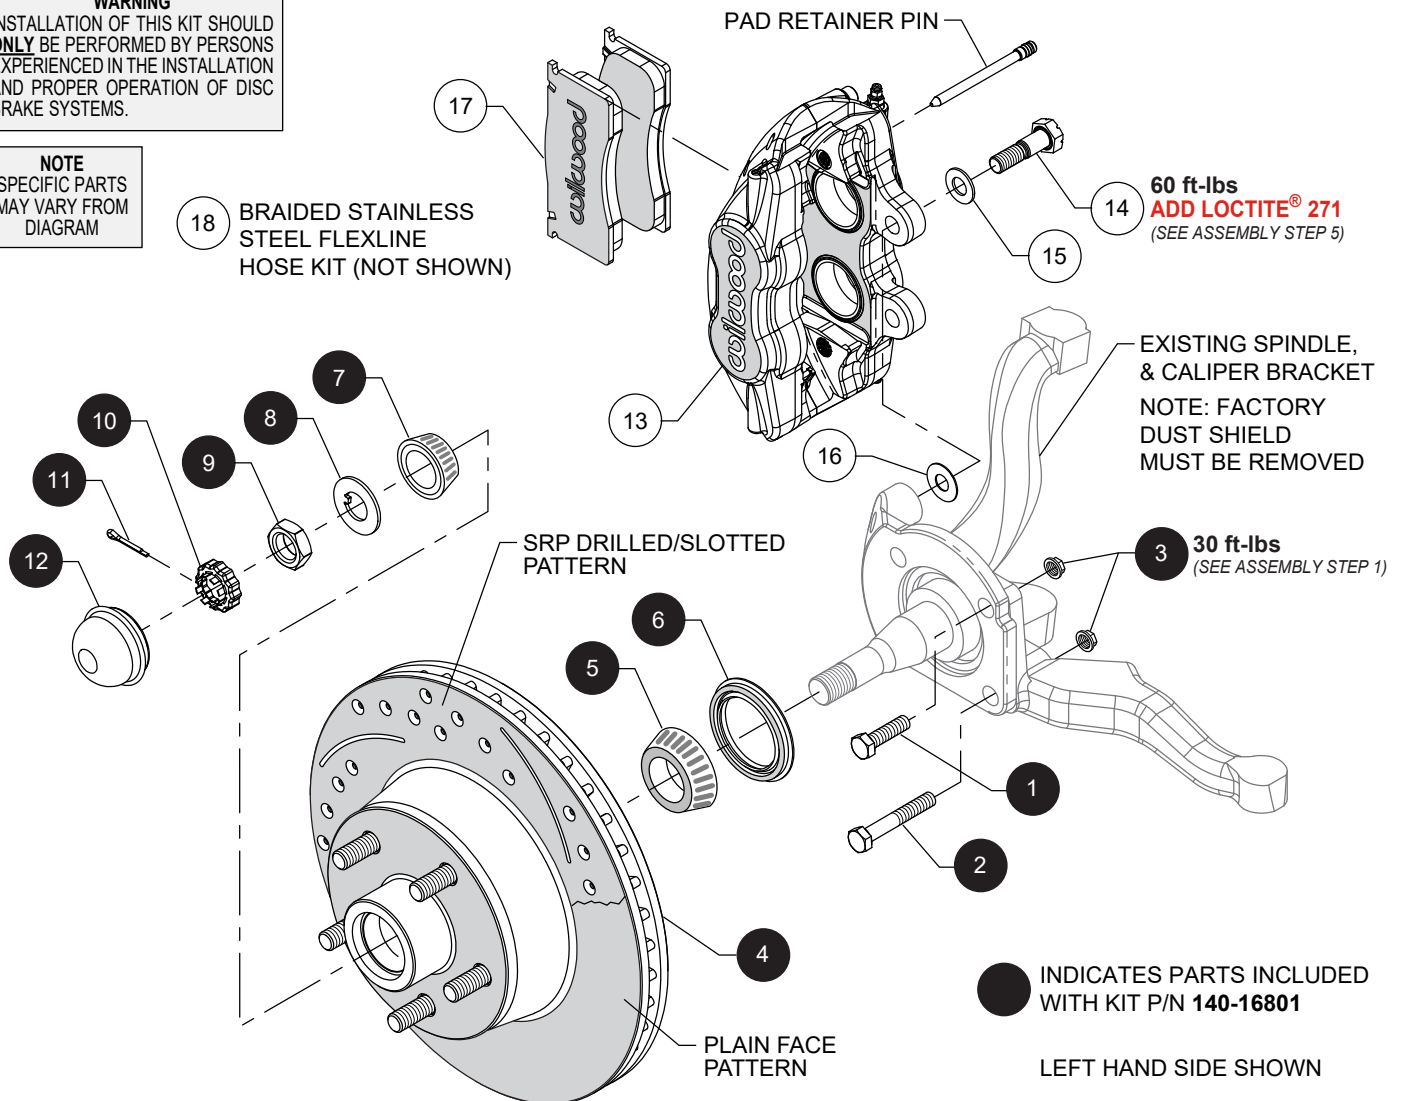

Figure 1. Typical Installation Configuration
Numbers in parenthesis refer to the parts list and Figure 1 on the preceding pages.
STEP 1 Reinstall the existing OEM caliper mounting bracket and secure using supplied bolts (1 and 2) and nuts (3). Note the location of the longer bolt (2) as shown in Figure 1 and photos 1 and 2. **NOTE:** *Supplied bolts and nuts in kit must be used for proper rotor clearance.* Torque nut to value shown in Figure 1.
STEP 2 Pack the large inner bearing cone (5) with high-temp disc brake bearing grease (available from your local auto parts store) and install into the backside of the hub/rotor (4), Figure 1 and Photo 3.
STEP 3 Install the grease seal (6) by pressing into the backside of the hub (4), flush with the end of the hub, Photo 4.
STEP 4 Pack the small outer bearing cone (7) with high temperature disc brake bearing grease and install into the front side of the hub (4). Slide the hub/rotor onto the spindle. Secure using spindle washer (8) and spindle nut (9). Adjust bearings per OEM specifications. Install spindle nut retainer (10) and cotter pin (11), Photo 5. Press the dust cap (12) into hub (4), Photo 6. **NOTE:** *Do not hammer center of cap, install using outer flange only.*
STEP 5 Mount the caliper (13) onto the existing OEM caliper mounting bracket using bolts (14) and washers (15), as shown in Figure 1. Initially place one .033" thick shim (16) on each bolt between the caliper and the bracket, Photo 7. Temporarily tighten the mounting bolts and view the rotor (4) through the top opening of the caliper. The rotor should be centered in the caliper, Photo 8. If not, adjust by adding or subtracting shims (16) between the bracket and the caliper. Always use the same amount of shims on each of the two mounting bolts. Once the caliper alignment is correct, remove the bolts one at a time, apply red *Loctite*® 271 to bolt threads, and torque to value shown in Figure 1.
STEP 6 Remove the two pad retaining pins from the caliper. Insert the brake pads (17) into the caliper, with the friction material facing the rotor, as shown in Photo 9 and secure the brake pads in place with the pad retaining pins, Photo 10. Be sure pad pins are completely engaged into caliper.
STEP 8 Attach brake line to caliper. Install Wilwood's stainless steel braided flexline hose kit (18), P/N 220-12168 included with this kit, as shown in Photo 11. The caliper inlet fitting is a 1/8-27 NPT. Use the included steel adapter fitting at the caliper (use PTFE tape on the pipe threads of adapter fitting for proper sealing to caliper). **Ensure hoses are routed to prevent contact with moving suspension, brake or wheel components.**